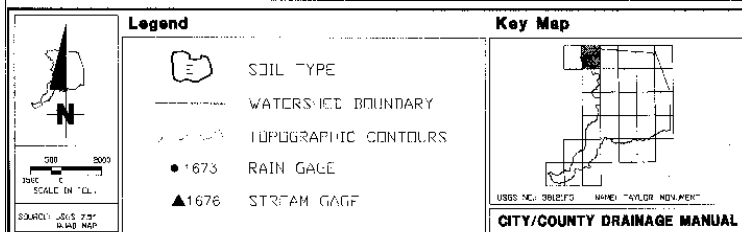

Figure 5.1
- Figure 5.1 Soils 119 through 145
- Figure 5.1 Soils 101 through 105